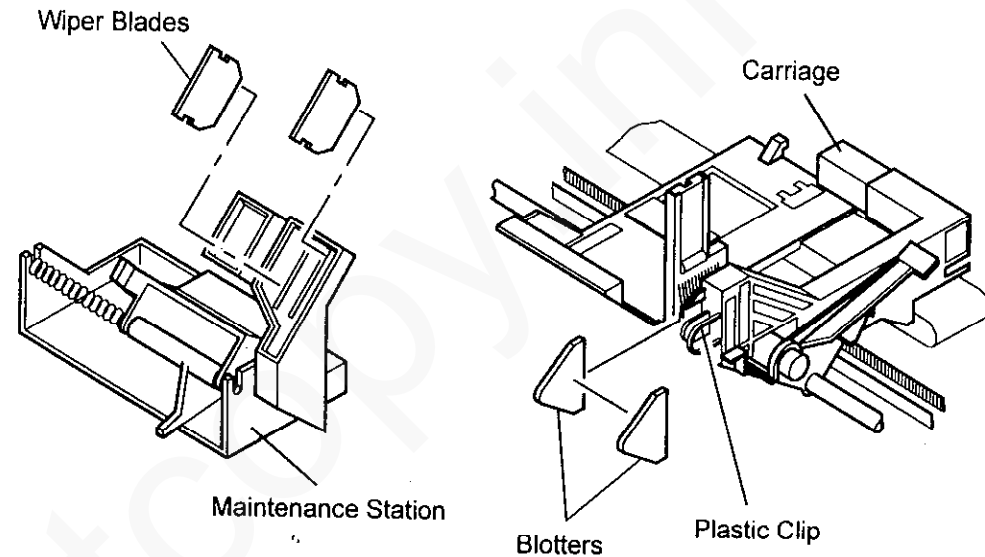

Figure 1 Removing the Wiper Blades and Blotter(s)
4. Remove the Blotter(s) from the clip on the Carriage (Figure 1).